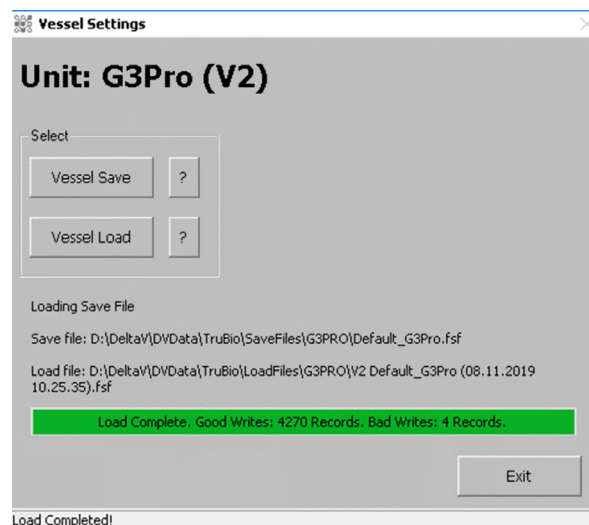

Figure 3.3. Loading progress shown in green bar.
2. All TruBio systems are sent from the factory with a default save file available; if the vessel is new on the system, this default file may be used. Select the appropriate file from the drop-down menu (Figure 3.3).